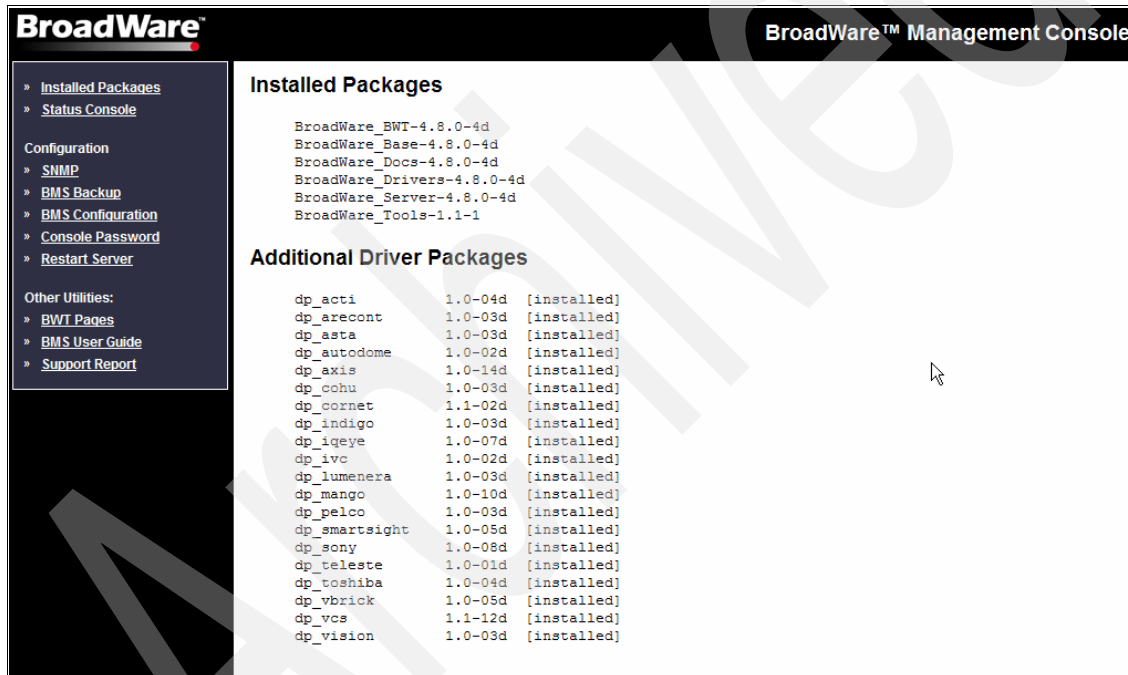

Figure 7-57 Cisco Management Console
5. Connect to the Cisco management console with a browser window, as shown in Figure 7-57, at the following address: